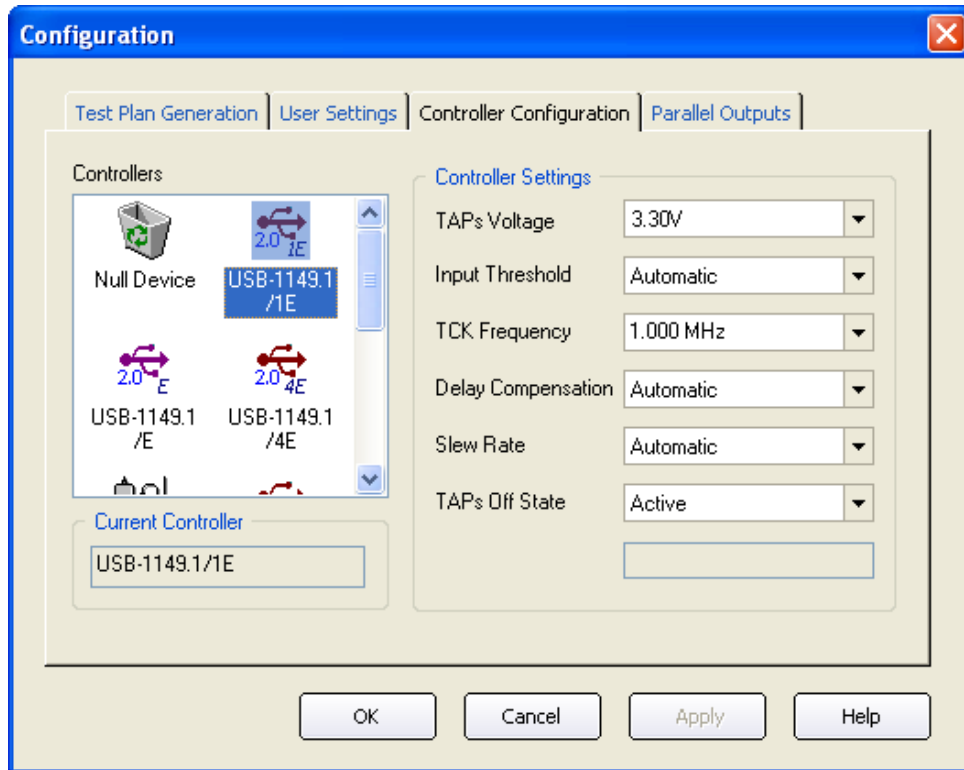

Figure 4-2. USB-1149.1/1E Setup Screen
6. Once ScanExpress Runner finds the USB-1149.1/1E controller, it displays a screen similar to Figure 4-2.